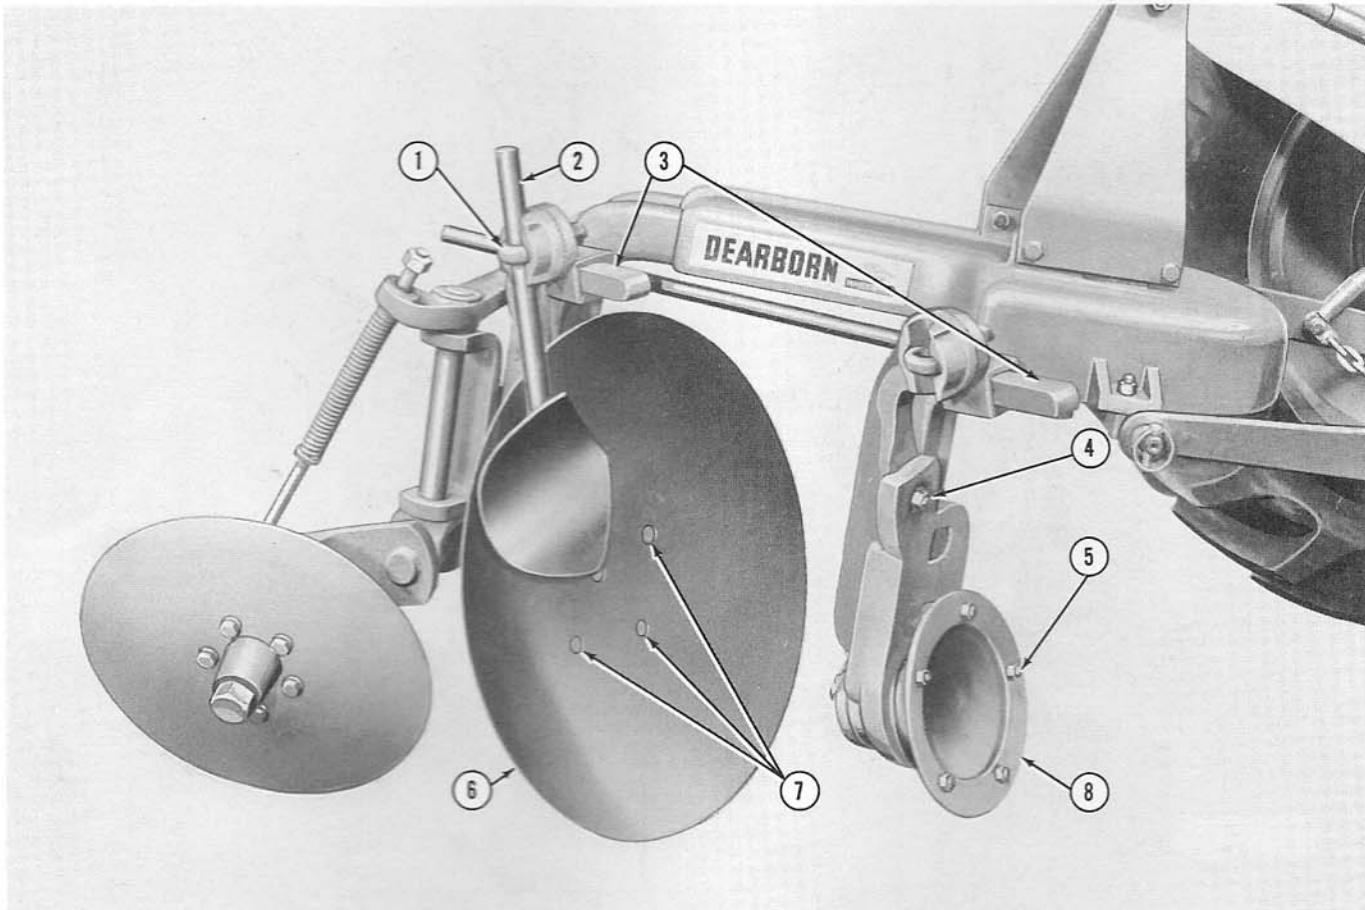

Figure 4
- a. Position the scraper mounting brackets (3), Figure 4, on the top rear of the disc bearing
- boxes and secure with bolts, lockwashers and nuts as shown at (4).
- b. Remove the five bolts (5), Figure 4, from the holes in each disc mounting spindle (8).
- c. Position a disc (6), Figure 4, (discs are interchangeable) on each mounting spindle (8) and insert the five plow bolts (7) so that the flat heads fit the contour of the disc as shown.
- d. Tighten the nuts on the bolts (7), Figure 4, until the discs are securely attached to each mounting spindle.
- e. Place the scraper stem (2), Figure 4, through the eye bolt (1). Adjust the scraper until the point is approximately  $\frac{1}{2}$ " from the center of the disc with the blade as close as possible but not touching the disc face, then tighten the nut on the eye bolt (1) securely.